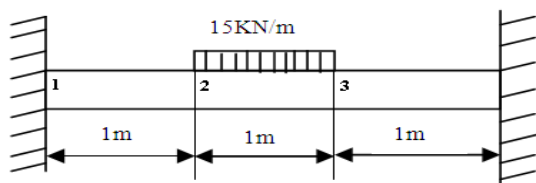

Fig.2
- The beam and loading shown in Fig.2. Determine the slopes at nodes 2 and 3 and the vertical deflection at the mid-point of the distributed load. $E=200\text{ GPa}$ and $I=4 \times 10^6\text{ mm}^4$